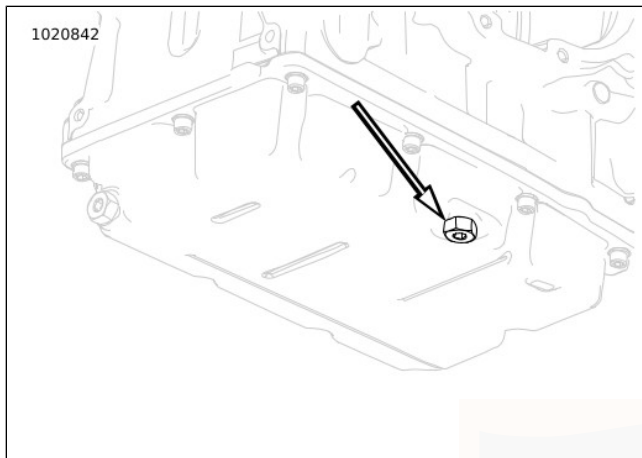

Figure 50. Transmission Drain Plug
2. See Figure 50. Remove transmission drain plug. Drain transmission.